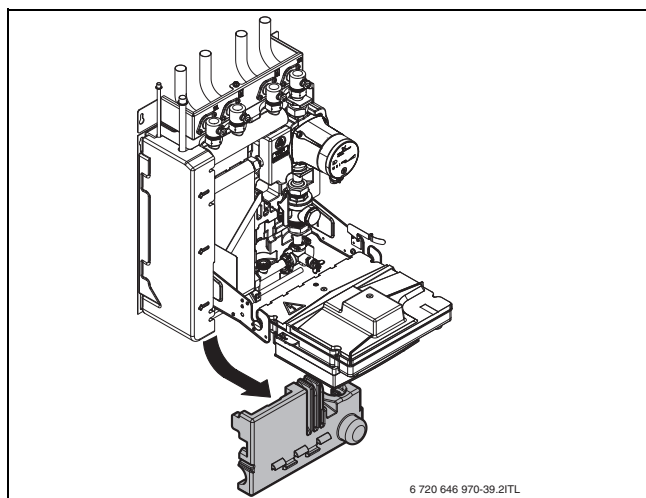

Fig. 56 Removing the bottom insulation plate
- ▶ Remove the lower insulation (fig 56, Page 50).